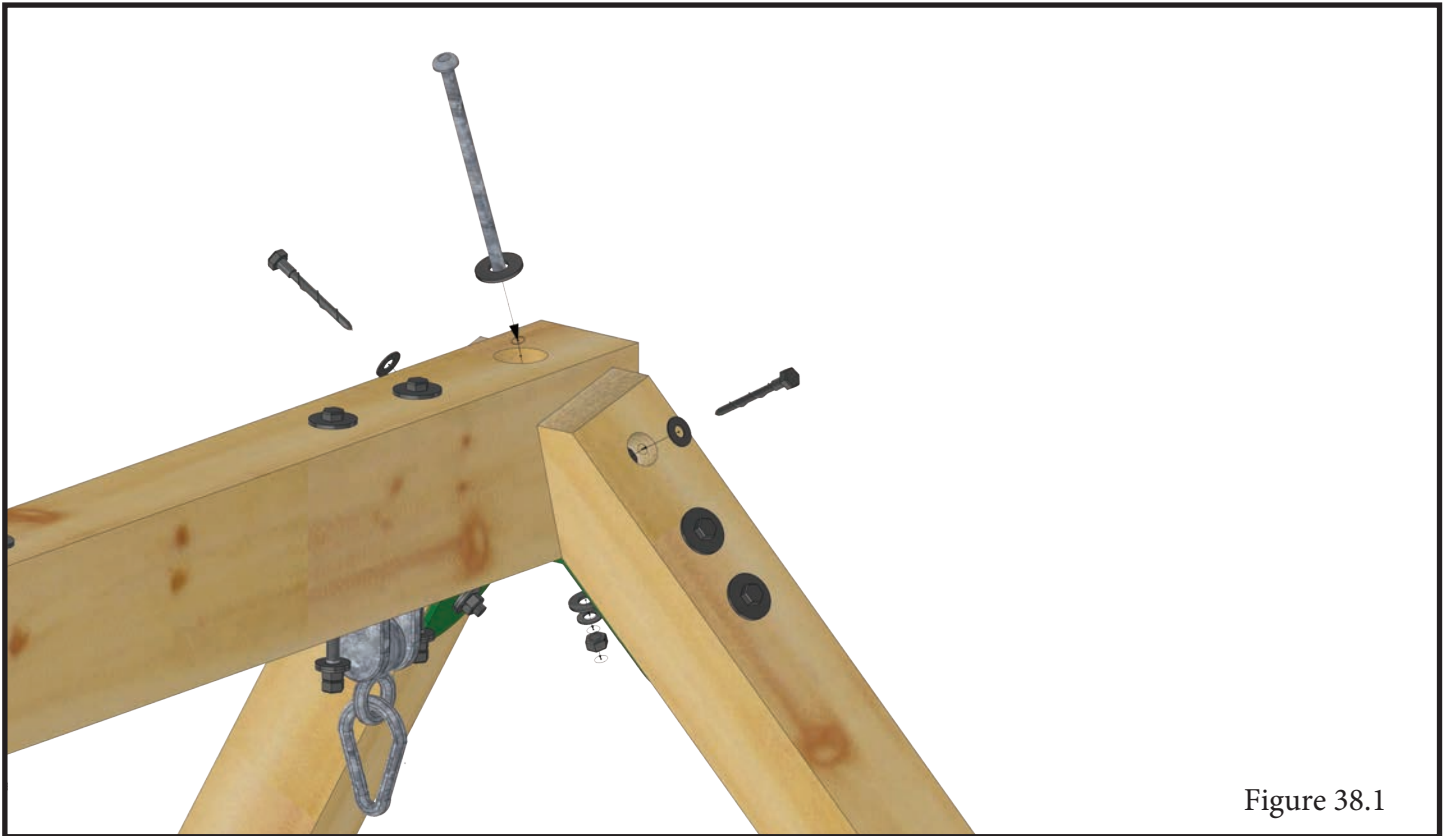

Figure 38.1
38.3 Fasten the top of the Swing Legs into the Swing Beam with 5/16" x 3" Lag Bolts with 5/16" washer as shown in Figure 38.1.